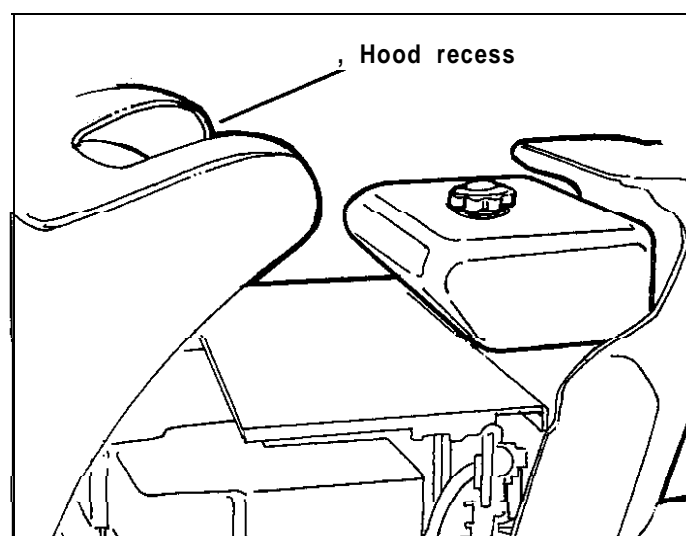

Figure 9. Gas Tank Located Under Hood
1. To raise the hood, grasp the hood recess (Figure 9) on top, then pivot the hood up and forward.